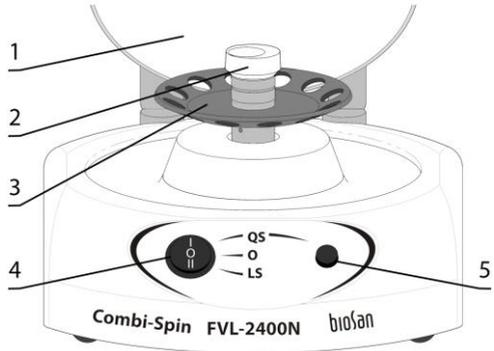

Figure 2. FVL-2400N
5.3.2 **Operation in the quick centrifugation mode.** Open the lid (fig. 2/1). Insert tubes in the rotor sockets, maintaining balance. Close the lid. Switch the power switch (fig. 2/4) into position **I (QS, quick spin)**. Press and hold the **QS** key (fig. 2/5) for quick mixing. After releasing the key, the rotor stops automatically. Switch the power switch into position **O (off)**, wait until the rotor stops, open lid and remove the tubes.
5.3.3 **Operation in the vortexing mode.** Empty the rotor and close the lid. Switch the power switch into position **I**. While gently holding the tube, press the bottom part of the tube in the vortex head cavity (fig. 2/2). Press and hold the **QS** key for vortexing. After releasing the key, the rotor stops automatically. Switch the power switch into position **O**.